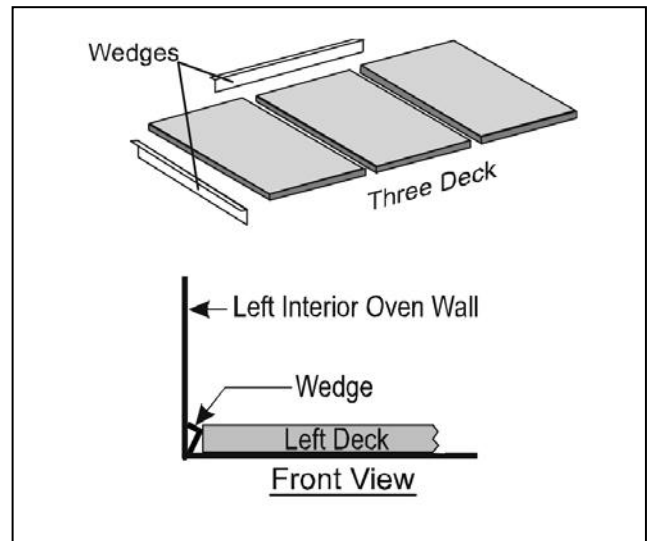

Figure 7
- (e) Use wedges in the back and on the sides of the deck if the decks are loose. The three decks should be tight against each other with no gap between them (See Fig. 7).